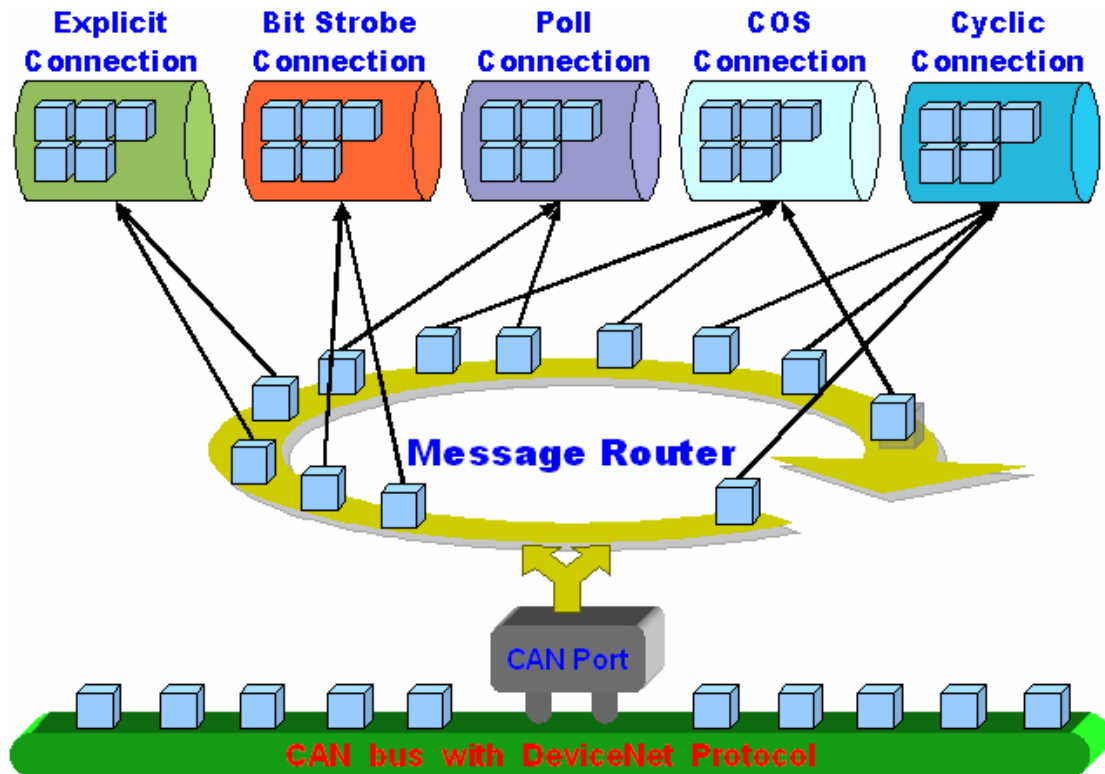

Figure 1.6 Message Router
1.6 PISO-DNM100(U) Firmware Characteristics
The PISO-DNM100(U) is a high-performance DeviceNet master board. The firmware inside the board implements DeviceNet protocol automatically when the board is active. The firmware always listens to the bus and receives the message at the same time. It works as shown in Figure 1.6.